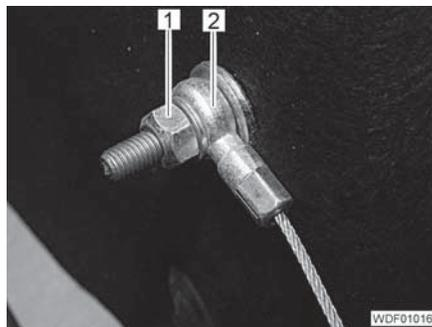

Fig. 278 Cable
- Loosen 1 nut (Fig. 278,1) on both sides, but do not unscrew them.
- In each case, unscrew 1 nut (Fig. 278,1) and remove 1 eye (Fig. 278,2).
- Push 1 eye each (Fig. 278,2) with washer onto the thread.
- In each case, screw 1 nut (Fig. 278,1) with washer loosely onto the thread.
- Tighten the nut (Fig. 278,1) so that the eye remains rotatable.